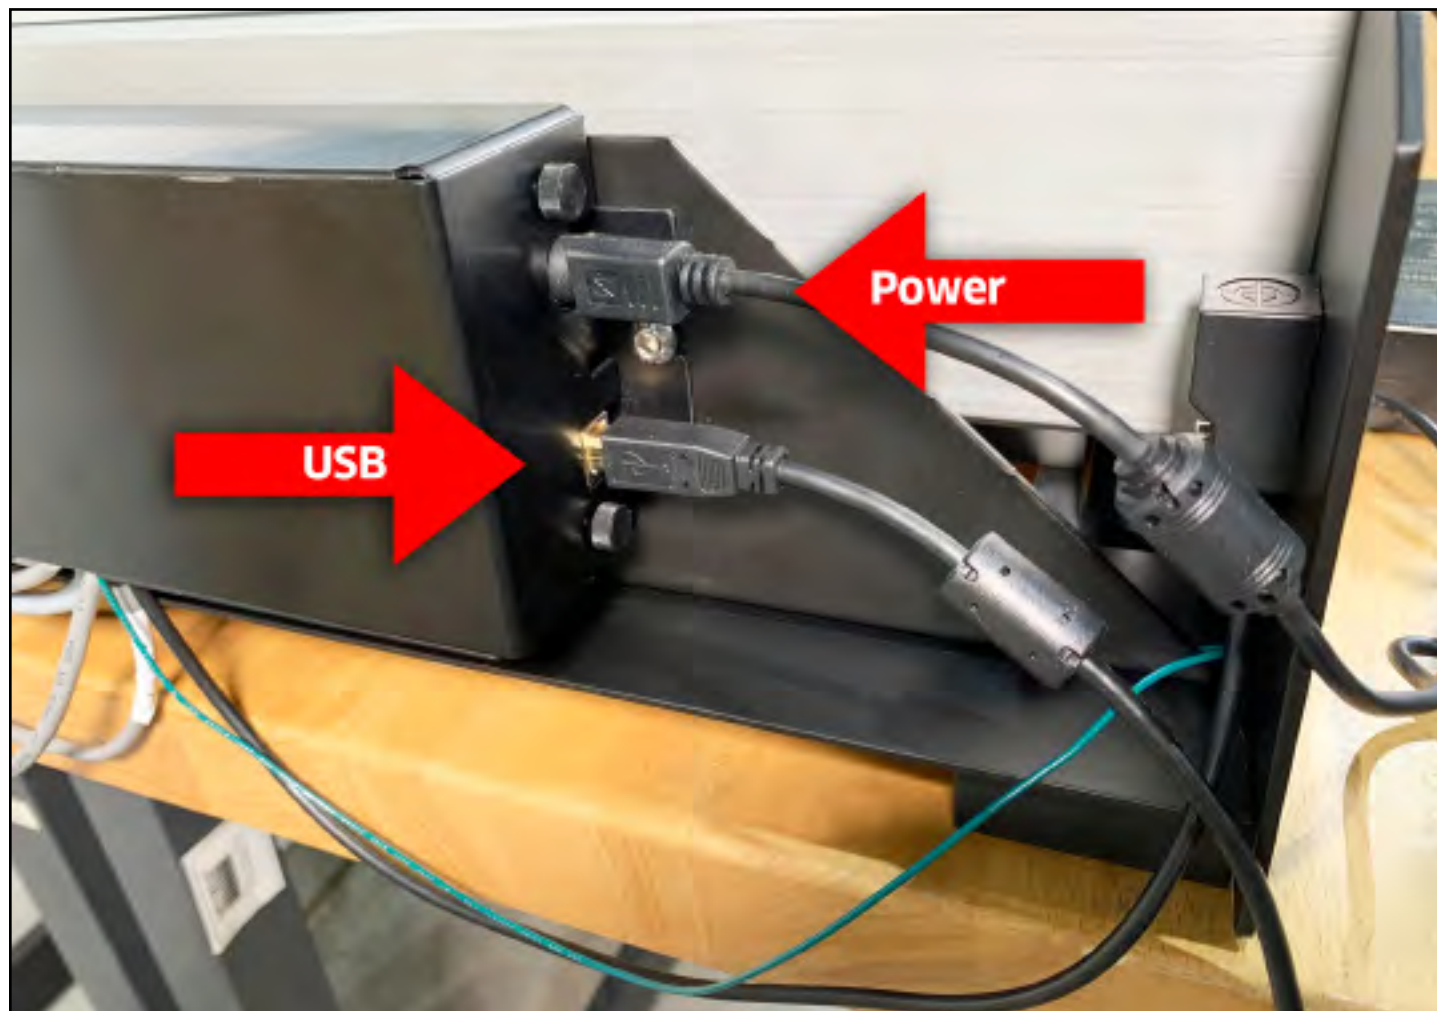

Figure 9-9
1. Plug the power cable into the power port at the back of the controller. See **Fig. 9-9**.